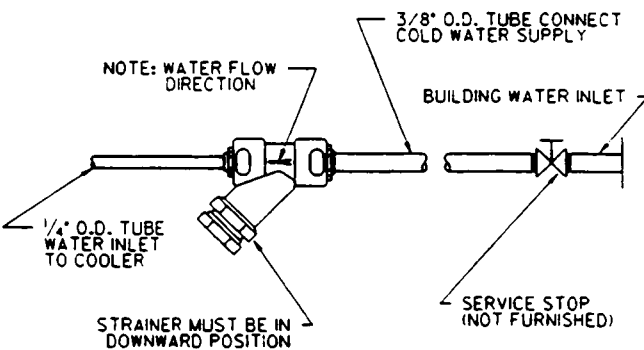

FIG. 2
5. Remove the two (2) access panels on the underside of the cooler and set them aside.
6. Install a 3/8" O.D. water line between the service stop valve and cooler. (see Fig.2)